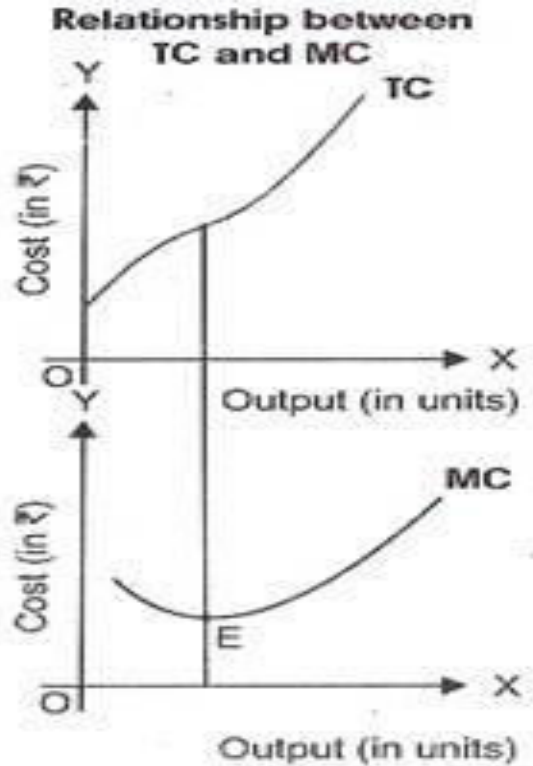

Fig. 6.12
3. When the rate of increase in TC stops diminishing, MC is at its minimum point, i.e. point E in Fig. 6.12.